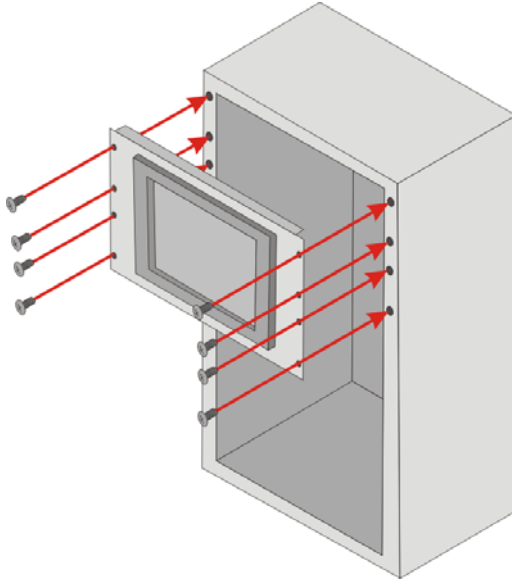

Figure 3-18: Install into a Rack/Cabinet
Step 4: Slide the panel PC with the attached rack/cabinet bracket into a rack or cabinet (Figure 3-18).
Step 5: Once the panel PC with the attached rack/cabinet bracket has been properly inserted into the rack or cabinet, secure the front of the rack/cabinet bracket to the front of the rack or cabinet (Figure 3-18).